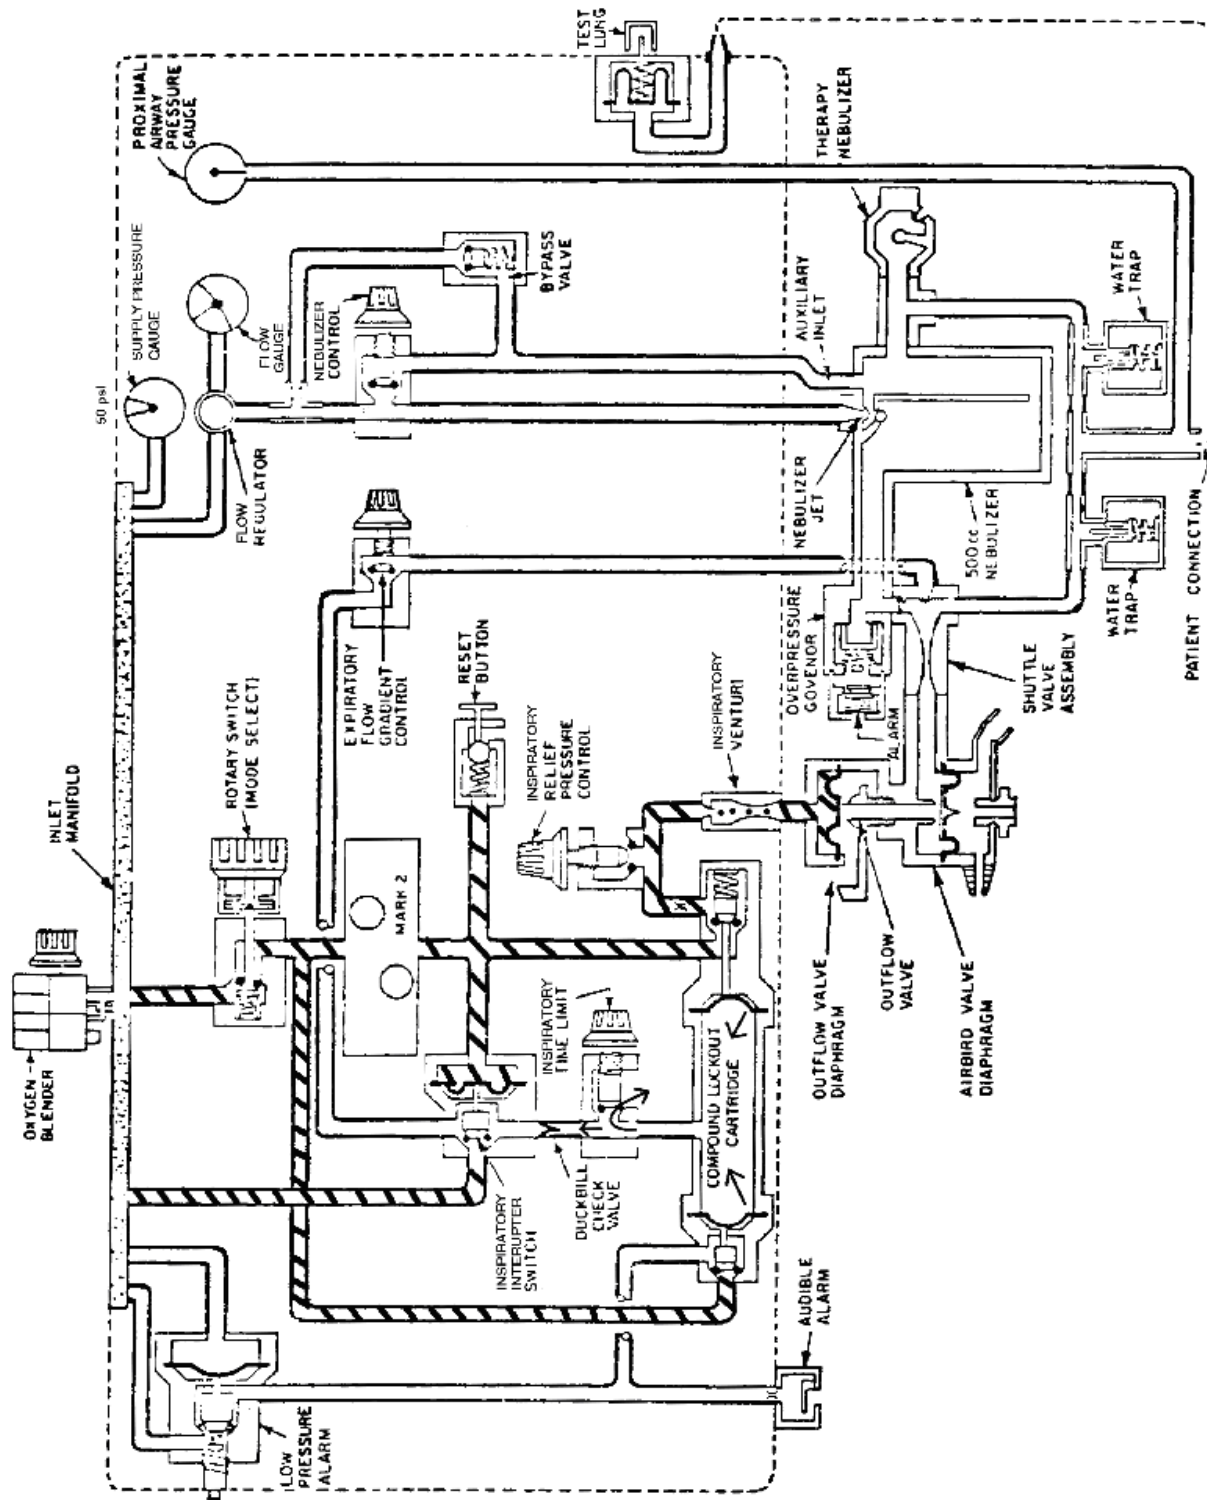

Figure 1-14. Inhalation phase of the controlled IMV mode.
a. During the inspiratory phase (figure 1-14), the approximately 15- to 18-psi gas flow applies pressure against the diaphragm in the inspiratory-interrupter switch, closing it and interrupting the flow of gas to the compound-lockout cartridge through the duckbill-check valve. This pressure is also applied to the inspiratory-venturi switch, which is open due to the gas trapped between the diaphragms of the compound-lockout cartridge, and to the reset button, holding it closed. From the venturi switch, gas flows through the inspiratory relief pressure control through the spoiler assembly to the top of the outflow-valve diaphragm. As the diaphragm is pressurized, peak inspiratory pressure limiting is maintained by the outflow valve.
(1) Gas flow to the inspiratory venturi and the spoiler assembly is interrupted, ending the inspiratory phase.
(2) The inspiratory time-limit alarm is activated by the flow through the lockout-alarm switch of the compound-lockout cartridge, notifying the operator that the ventilator has automatically switched over to spontaneous breathing.